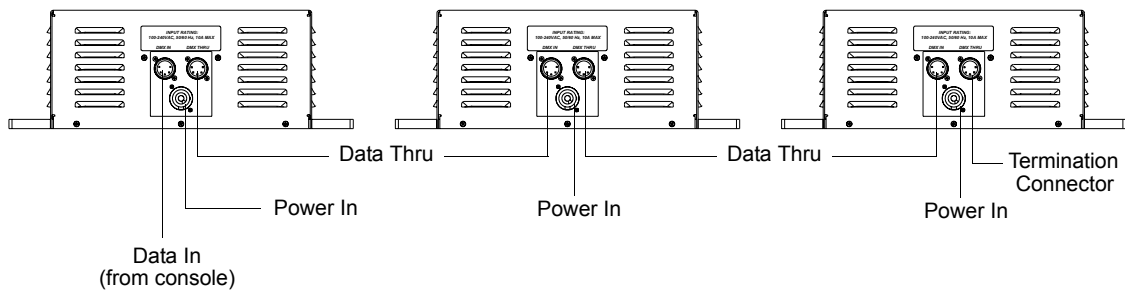

Figure 2-4: Connecting Power and Data Cables
- Step 1. Connect data cable from console to first luminaire in chain at DATA IN connector (**Figure 2-4**).